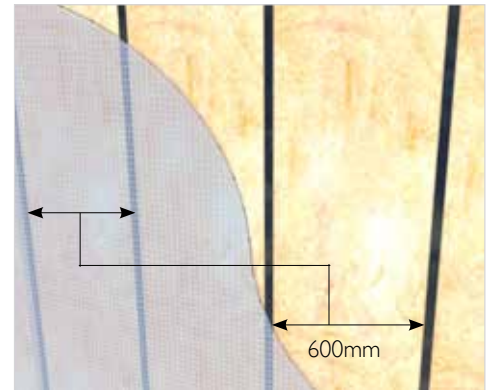

Fig. 1: Temporary fixing with Probond Butyl Tape
1. Apply single runs of Probond Butyl Tape at equal centres (max. 600mm) to substrate/studs/fixing rails to provide a temporary fixing point (Fig.1).